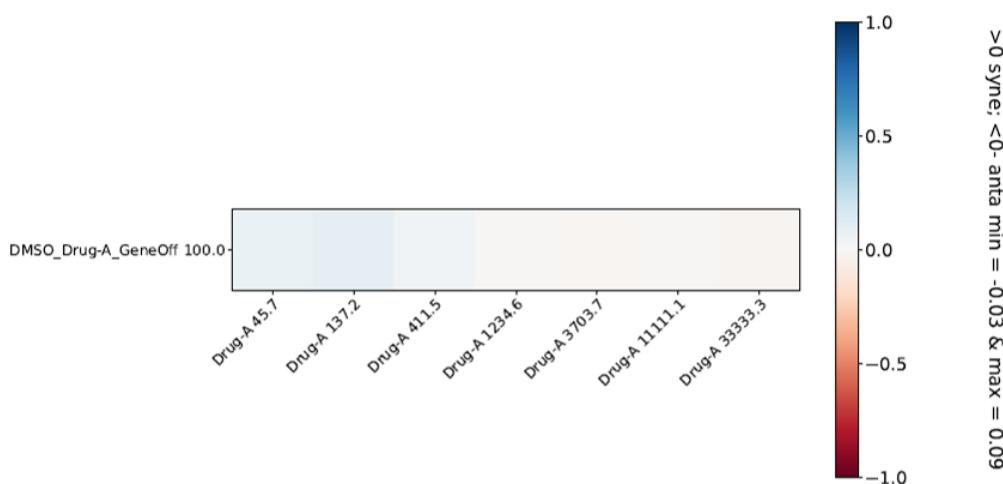

Figure 46: 2D heatmap for the time point 72h, in case of a ($m \times n$) matrix combination.
- 2D heatmap with the BI score, see Figure 46.